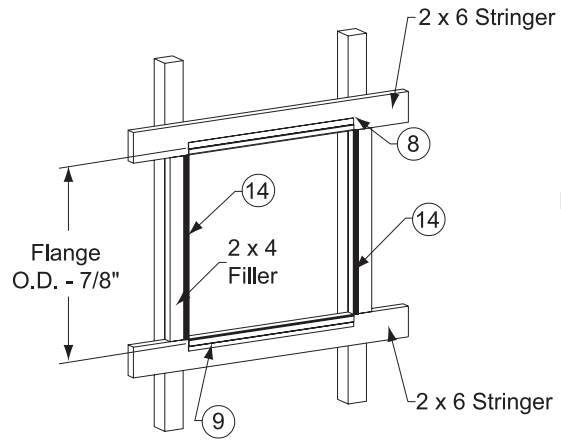

Figure 4
The light trap will require an upper and lower stringer for mounting the top and bottom mounting brackets. 2" x 6" lumber or greater is preferred. A 2" x 4" filler is required on the sides to provide a flush surface for light reduction. Place the $\frac{1}{16}$ " x 1" gasket material on the inside edge of the filler as shown in Figure 4.
1. Attach the top and bottom mounting brackets to the wall opening with the top of the lower bracket even with the framed opening. The distance from the lower mounting bracket to the bottom of the top bracket should be $7/8$ " less than the outside dimension of the light trap flanges as shown in Figure 4.